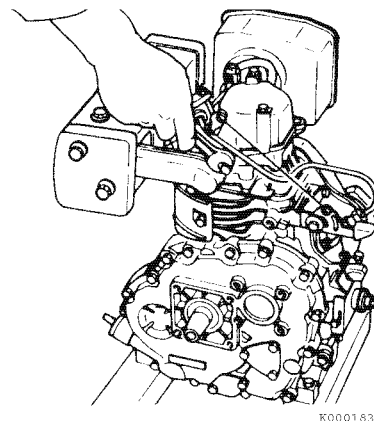

Figure 6-35
8. Remove the exhaust muffler (**Figure 6-35**).